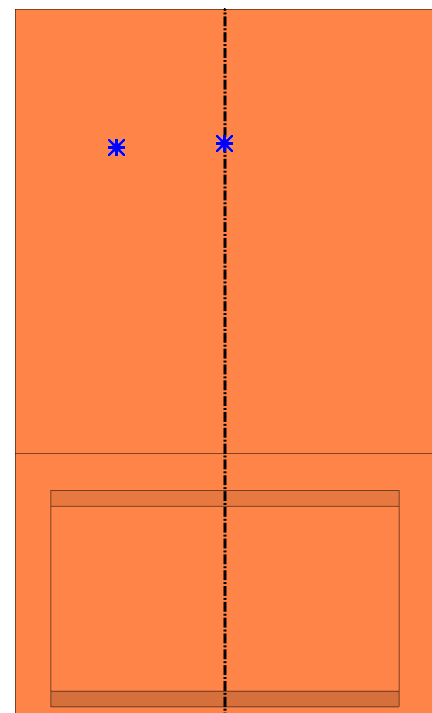

Fig. 23
Step 6. Sketch **point on centerline and point to left**, **Fig. 23.**